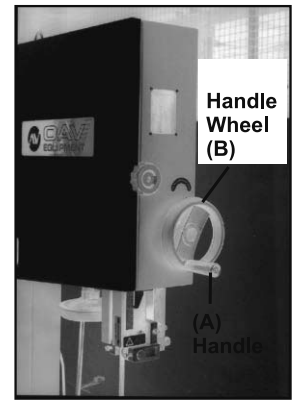

Fig. 2
- Attach the handle (A, Fig. 2) to the hand wheel (B, Fig. 2), lock the screw then connect to the machine.
The upper blade guide should always be set as closes practical against the work. To adjust, loosen the hand wheel (A, Fig. 2) at the side of housing and see the blade guide to the required height then tighten after setting.
(fig.2)